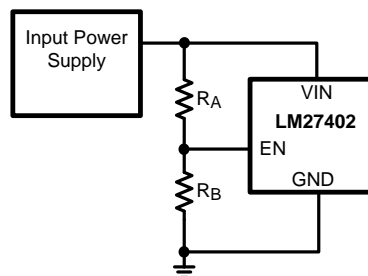
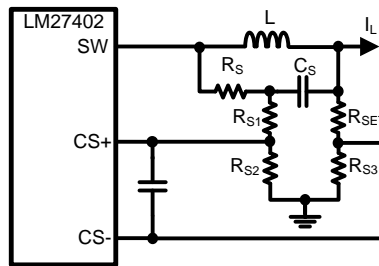

Figure 28. Enable Sequencing
Figure 34. Common Mode Voltage Resistor Divider Network
If enable (EN) is not controlled directly, the LM27402 can be pre-programmed to turn on at an input voltage higher than the UVLO voltage. This can be done with an external resistor divider from VIN to EN and EN to GND as shown in Figure 28.
The internal current source  $I_{CS-}$  is powered from the input voltage rail (VIN). The minimum voltage required to power the current source is 1V from VIN to  $V_{OUT}$ . If a condition occurs where  $V_{IN} - V_{OUT} < 1V$ , the LM27402 may prematurely initiate hiccup mode. There are multiple options to avoid this situation. The first option is to enable the LM27402 after the input voltage has risen 1V above the nominal output voltage as seen in Figure 28. The second option is to lower the comparator common mode voltage shown in Figure 34 such that the  $I_{CS-}$  current source has enough headroom voltage.